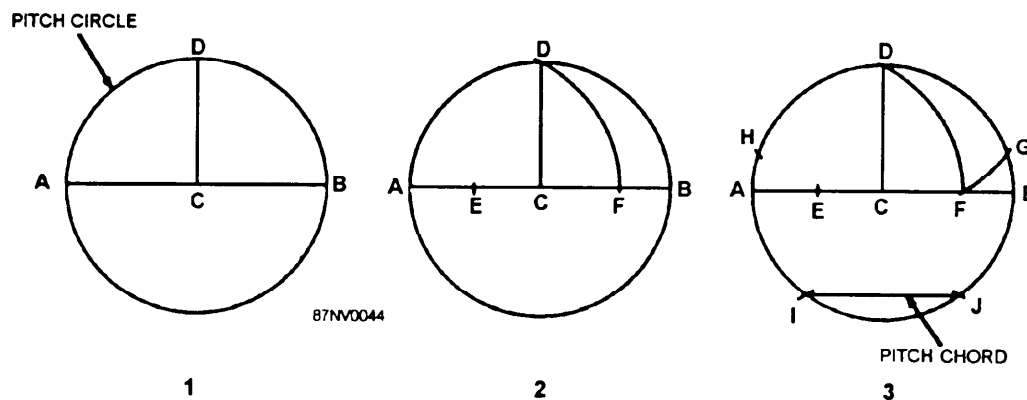

Figure 16-5.—Layout for a five-hole flange.
PROBLEM I—Lay out a five-hole flange. (See fig. 16-5.)
3. Develop the inner circle so that each quadrant or quarter-circle is equally divided into five parts. (See problem I and fig. 16-5.)